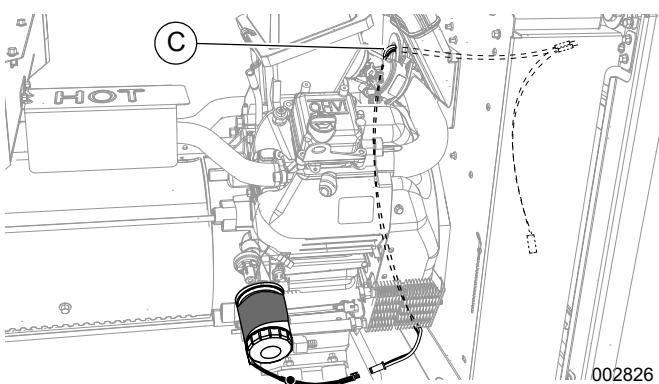

Figure 7. Routing Heater Wires (11-22kW)
3. Plug the connector into one of the Y-harness sockets (B).
4. See **Figure 7**. Pass the lead wires and empty Y-harness socket beneath the engine and through the harness grommet (C) in the engine divider panel,